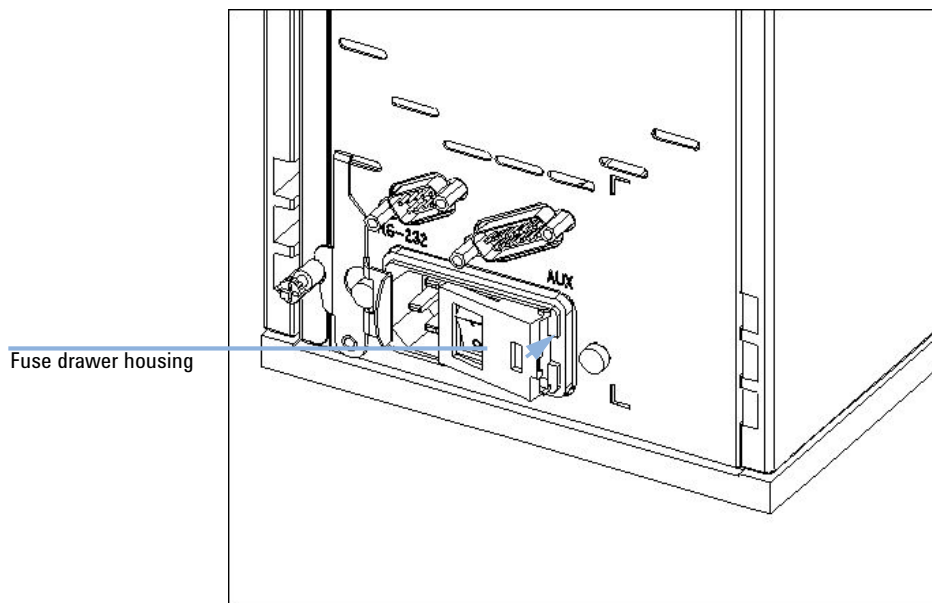

Figure 13 Close fuse drawer housing
- 7 Close the fuse drawer housing (see Figure 13 on page 143), reconnect the instrument to the power line and switch it on.